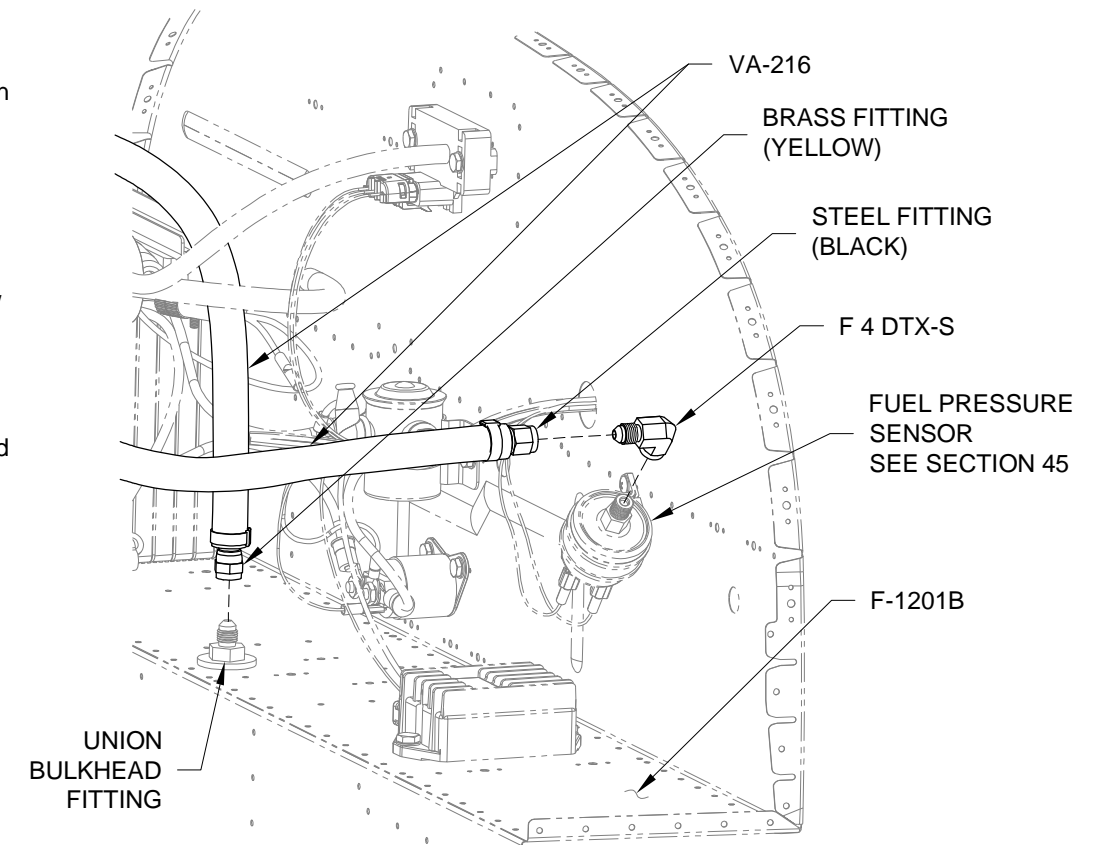

FIGURE 4: CONNECTING FUEL RETURN ASSY.
Step 4: Attach the VA-216 Fuel Return Assy. to the union bulkhead fitting on the F-1201B Firewall Shelf. See Figure 4.
Step 5: Loosen the cushioned clamp mount screw and slide out the fuel pressure sensor. Attach the the elbow to the fuel pressure sensor using a small amount of pipe thread sealant. See Figure 4.